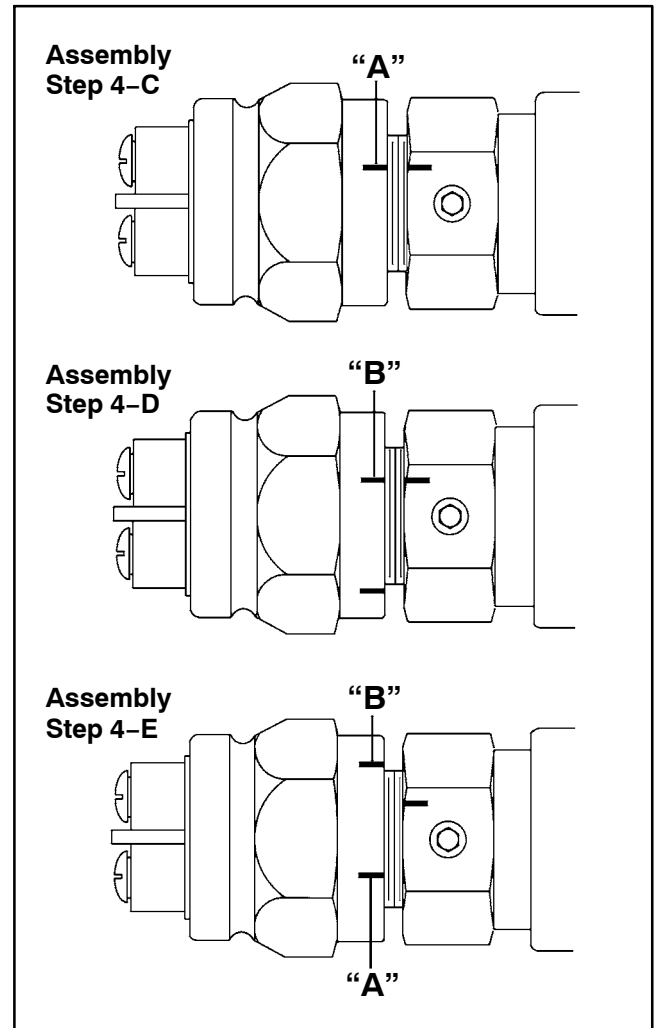

Figure 47
1. Install new O-ring (11) onto adapter and new O-ring (16) onto pin.
C. Move the link out of the detent position. The test light will go on. Screw in the switch until the light goes off. Mark this as position “A” (Fig. 47). Move the link to the detent position and the test light should come back on.
E. Unscrew the switch one third of the distance between “B” and “A”. Install and tighten the set screw (17) in one of the upper quadrants of the hex of the switch adapter (Fig. 47). Torque set screw from **28 to 34 in-lb (3.2 to 3.8 N-m)**.